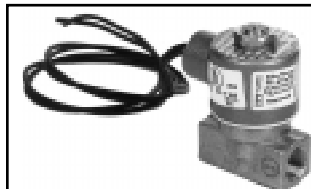

Figure 1A - Pilot Valve
3. Remove the Pilot Regulator - Remove the electrical burner control compartment service panels. Locate the pilot valve and the pilot regulator (See Figures 1A, 1B & 1C).